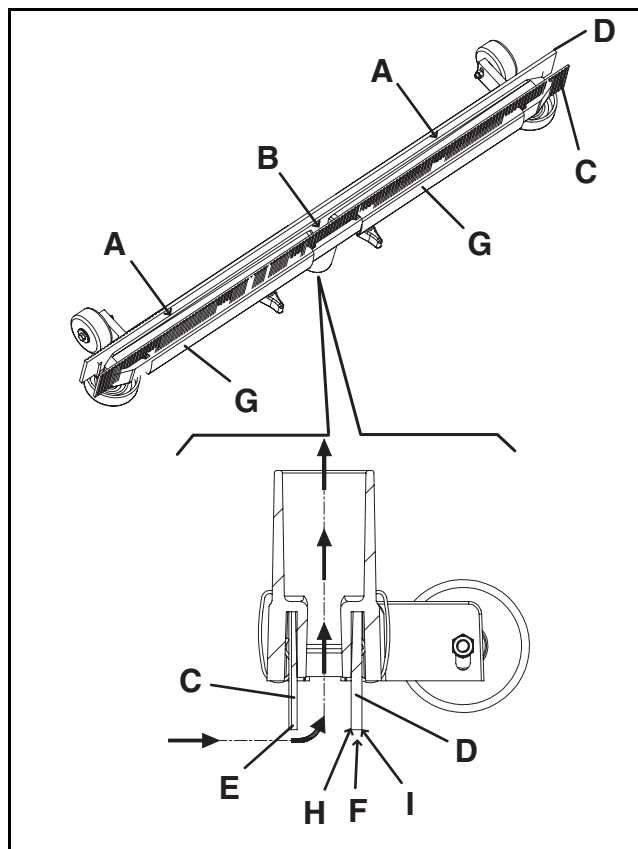

Figure 25
6. Check the front blade (C, Fig. 25) and the rear blade (D) for wear, cuts and tears; if required, replace them according to the procedure in the "Squeegee Blade Check and Replacement" section below.
2. Check that the edge (E, Fig. 25) of the front blade and the edge (F) of the rear blade lay down on the same level, along their length; otherwise adjust their height according to the following procedure:
- Remove the fixing springs (G, Fig. 25) and adjust the front blade (C) and the rear blade (D).
3. Check the front blade (C, Fig. 25) and rear blade (D) for wear, cuts and tears. If necessary, replace them according to the following procedure:
- Remove the spring clamp (G, Fig. 25) and replace the blade.
- Reinstall the spring clamps (G, Fig. 25).